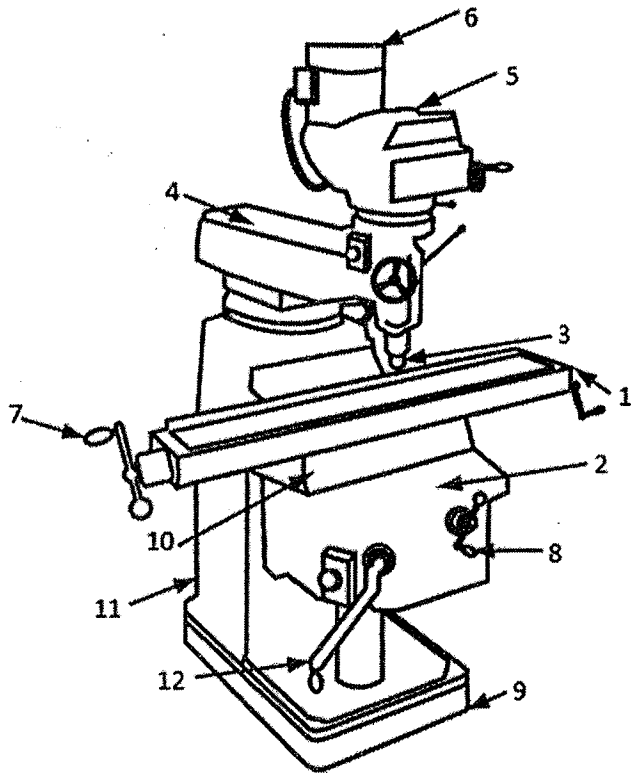

Fig.02
b. Name the parts of the milling machine shown in Fig.02